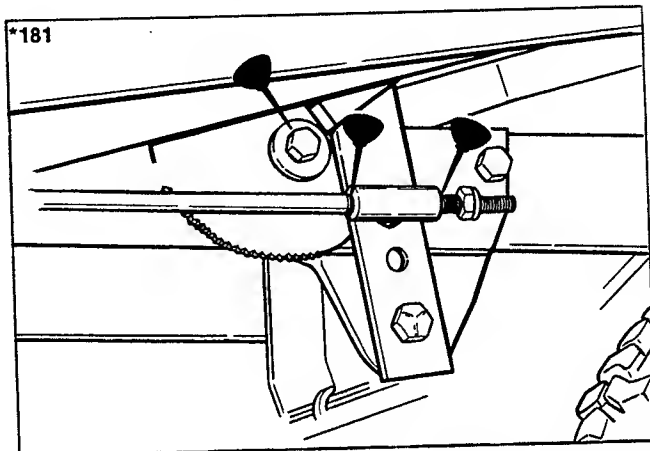

Figure 2. Clutch-Brake Pedal Lubrication (under right-hand footrest)
1. Lubricate the points where the clutch-brake pedal and parking brake lever pivot and where clutch rod contacts rod guide. See figure 2.